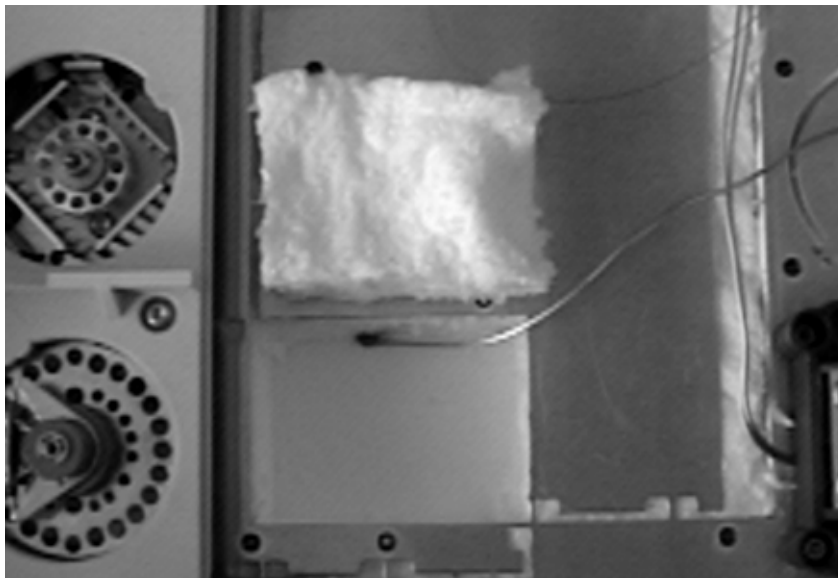

Figure 6 Sliding the stainless steel tube
- 4 Slide the 1/16-inch stainless steel tube from the SVE Valve/Fitting Assembly through the opening you just created in top of the GC oven (see Figure 6).